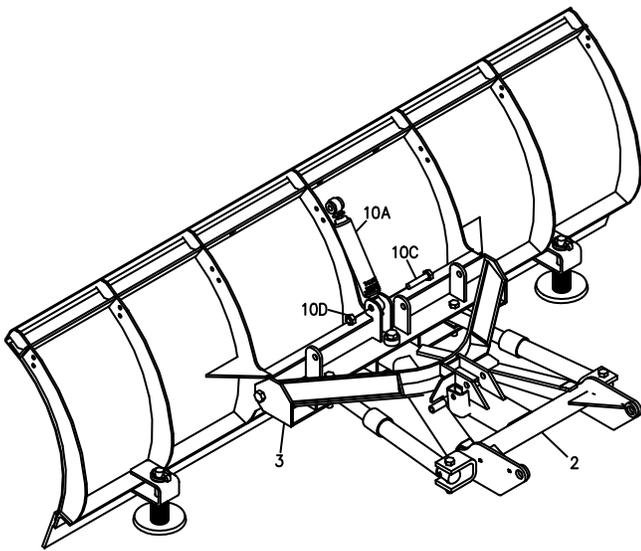

Figure 4. Shock Mount Attachment G10061
7. Insert **HDW05608** 5/8"-11 x 3" Hex Head Cap Screw (10C) through the mounting tabs and the base end of Shock Absorber (10A). The head of Hex Head Cap Screw (10C) must be on the right side of the mount as illustrated in Figure 4. Install **HDW01709** 5/8"-11 Oval Top Lock Nut (10D) on 5/8"-11 x 3" Hex Head Cap Screw (10C) and leave finger tight.